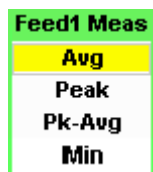

Figure 2-71 Measurement type pop-up
- 5 Press  to display the **Feed Measurement** pop-up (see Figure 2-71) and use the  and  to assign a measurement type.